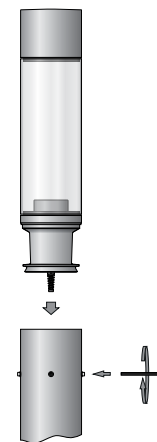

Figure 2
6. Install luminaire head and secure into place by tightening set screw (Figure 2)